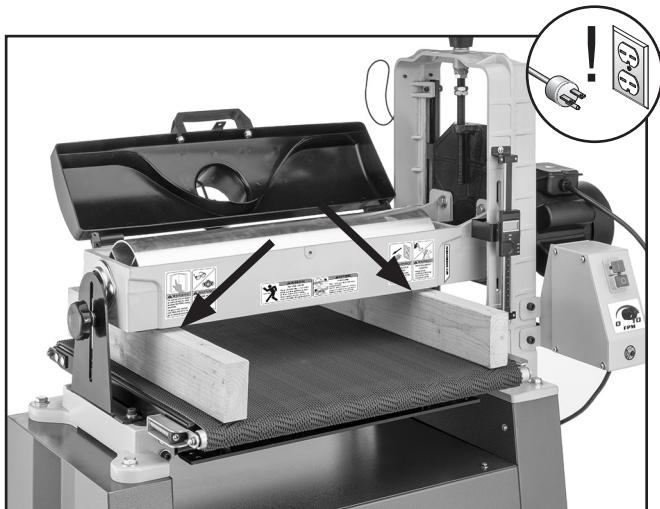

Figure 65. Example of gauge blocks placed under drums.
2. Place gauge blocks on feed belt as shown in **Figure 65**.